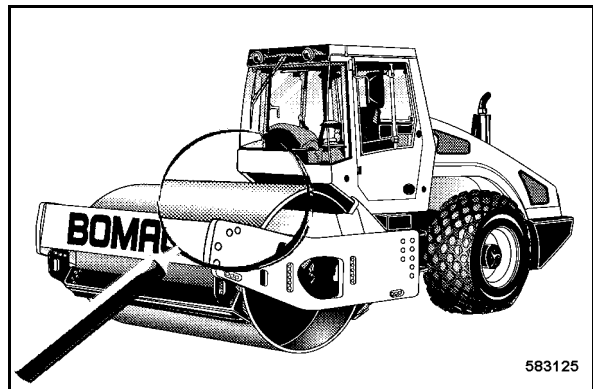

Fig. 191
- Clean the machine (Fig. 191) thoroughly at least once per week.